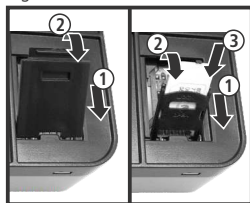

Figure 3
- Assemble the supplied antenna (figure 3).